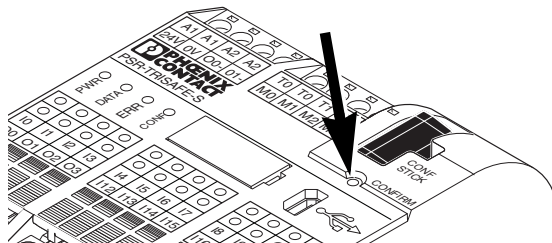

Figure 10-6 Confirming the configuration with the “Confirm” button
5. Confirm the new configuration by pressing the “Confirm” button using a pen (see figure 10-6).